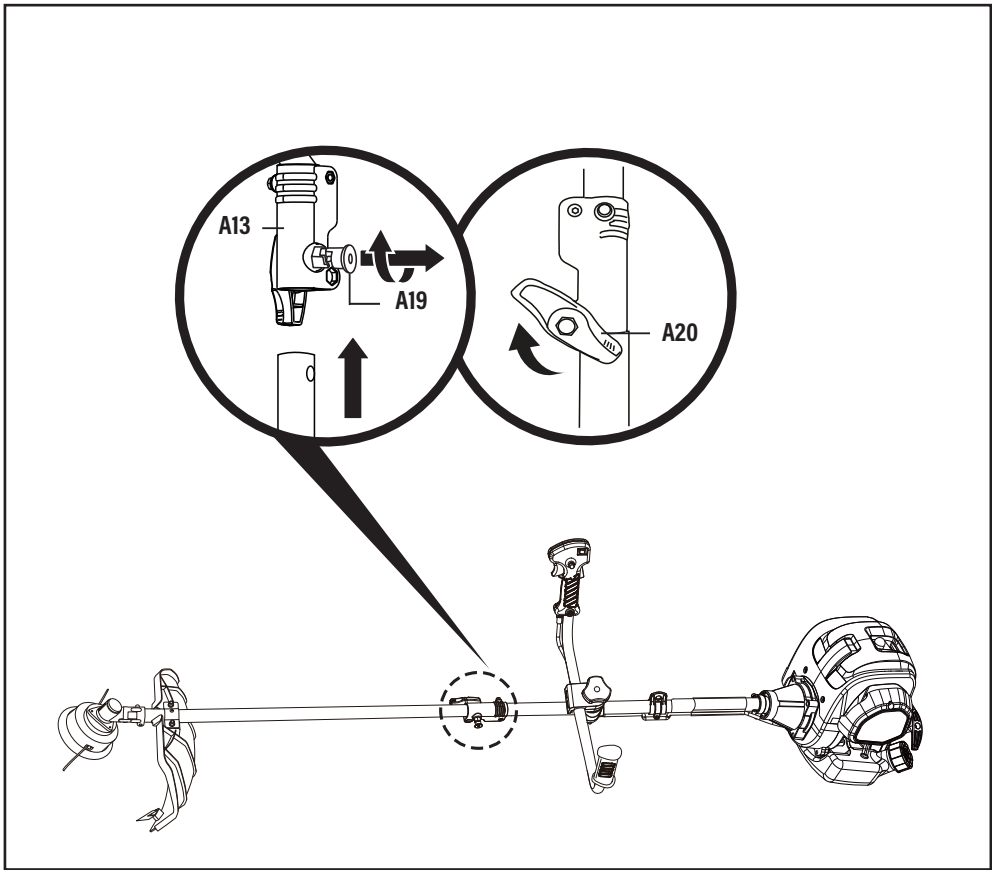

Fig.2
2. Pull out and rotate the locking knob (A19) on the shaft clamp (A13) to stop at the bracket. Insert the shaft tube (B1) of the attachment into the upper drive shaft tube (A11) (Fig. 2).